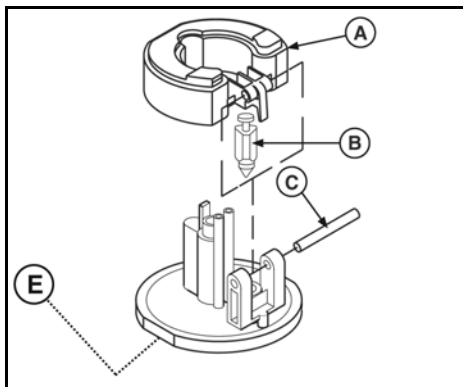

Figure 67
10. Insert new inlet needle (B) into the slot on the float (A, Figure 67).
11. Place the needle and float assembly into the fuel transfer tube. Secure with new hinge pin (C) and center the pin between the float bosses.